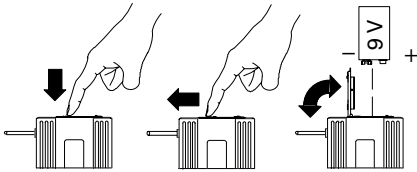

FIGURE 4. BATTERY INSTALLATION
2. **T1, T1G, T11:** Press down on the OPEN side of the battery compartment cover, slide it back and flip it open, as shown in Figure 4.